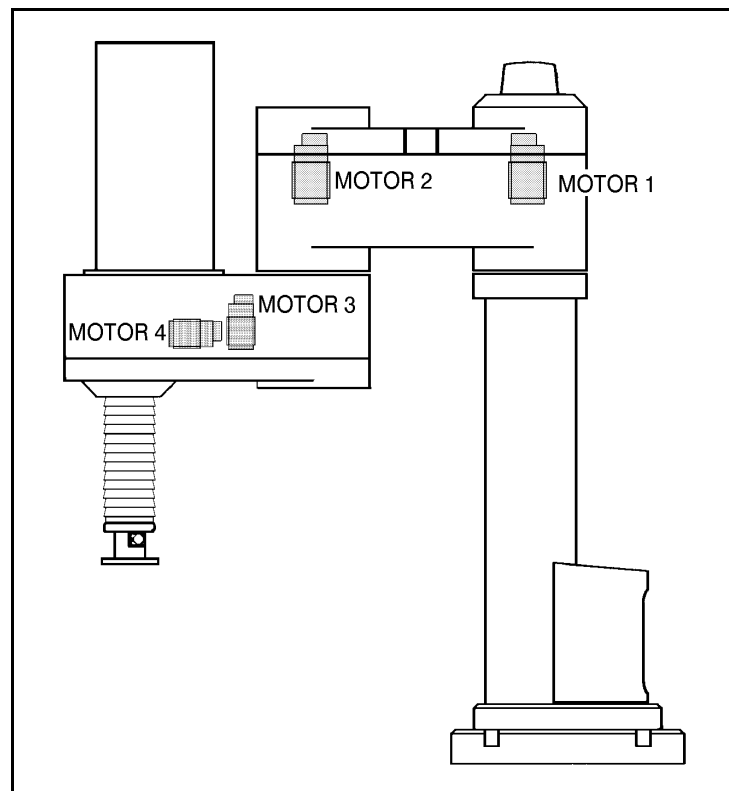

Figure 6-4: Motor Locations in SCORA-ER 14
- Since mounting motors on the robot arm adds to the robot's weight and inertia, the robot motors must be light and compact, yet powerful. As shown in Figure 6-4, the motors of the **SCORA-ER 14** are located close to the axes they drive.